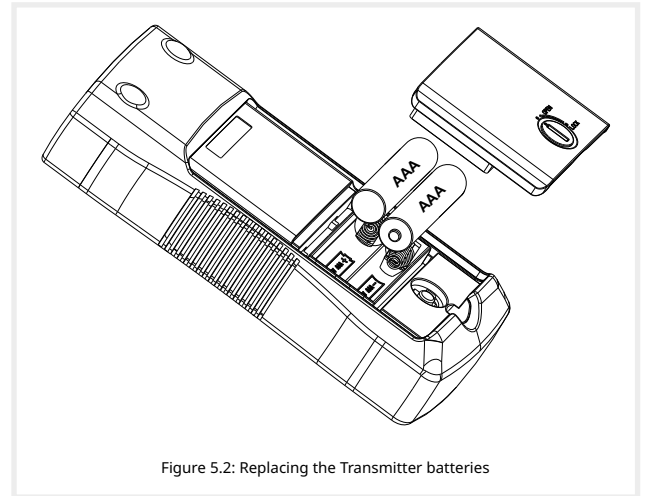

Figure 5.2: Replacing the Transmitter batteries
- Replace the batteries as shown in Figure 5.2. Observe the battery polarity shown in the battery compartment.